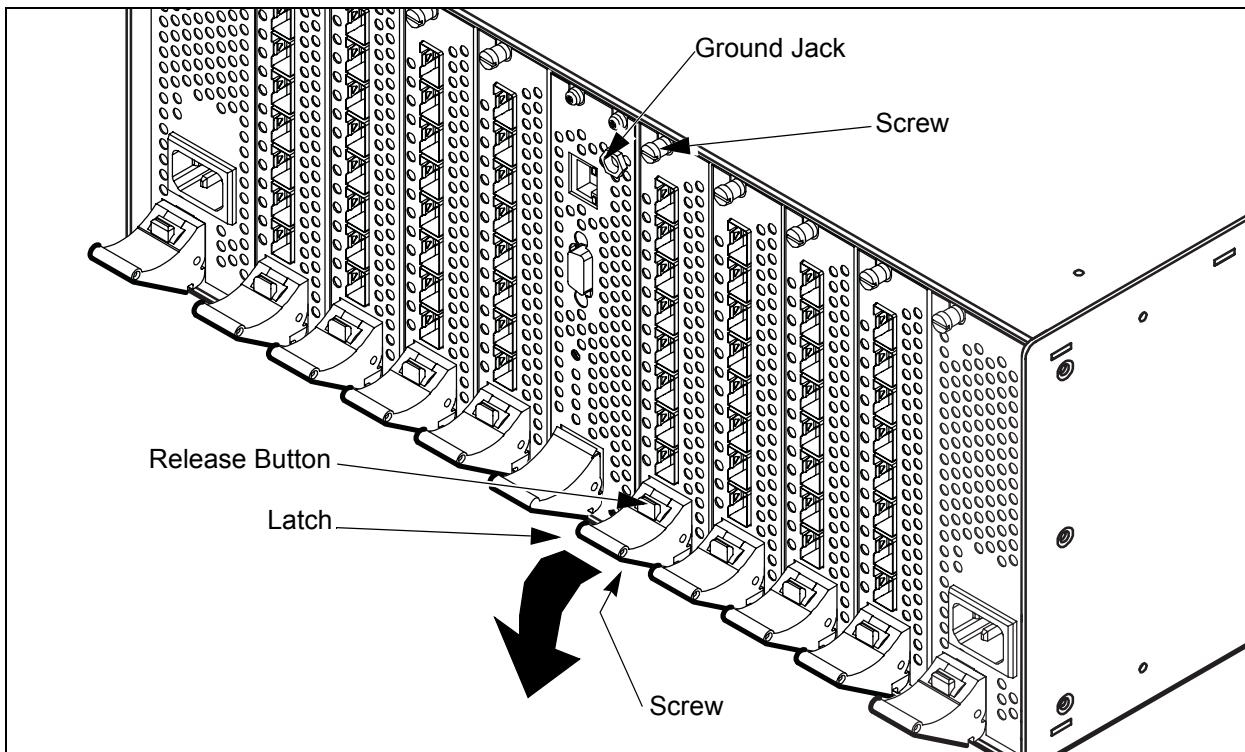

Figure 6-2. Removing an I/O Blade
2. Put on an ESD wrist strap, and connect it to the ground jack on the CPU module shown in Figure 6-2 or some other ground point on the chassis.
7. Using a flat-bladed screwdriver, loosen the captive screws at the top and bottom of the I/O blade faceplate as shown in Figure 6-2. The bottom screw is under the latch. Grasp the latch and press the red release button, then rotate the latch downward to disengage the I/O blade from the backplane connector. Carefully slide the I/O blade out of the slot.